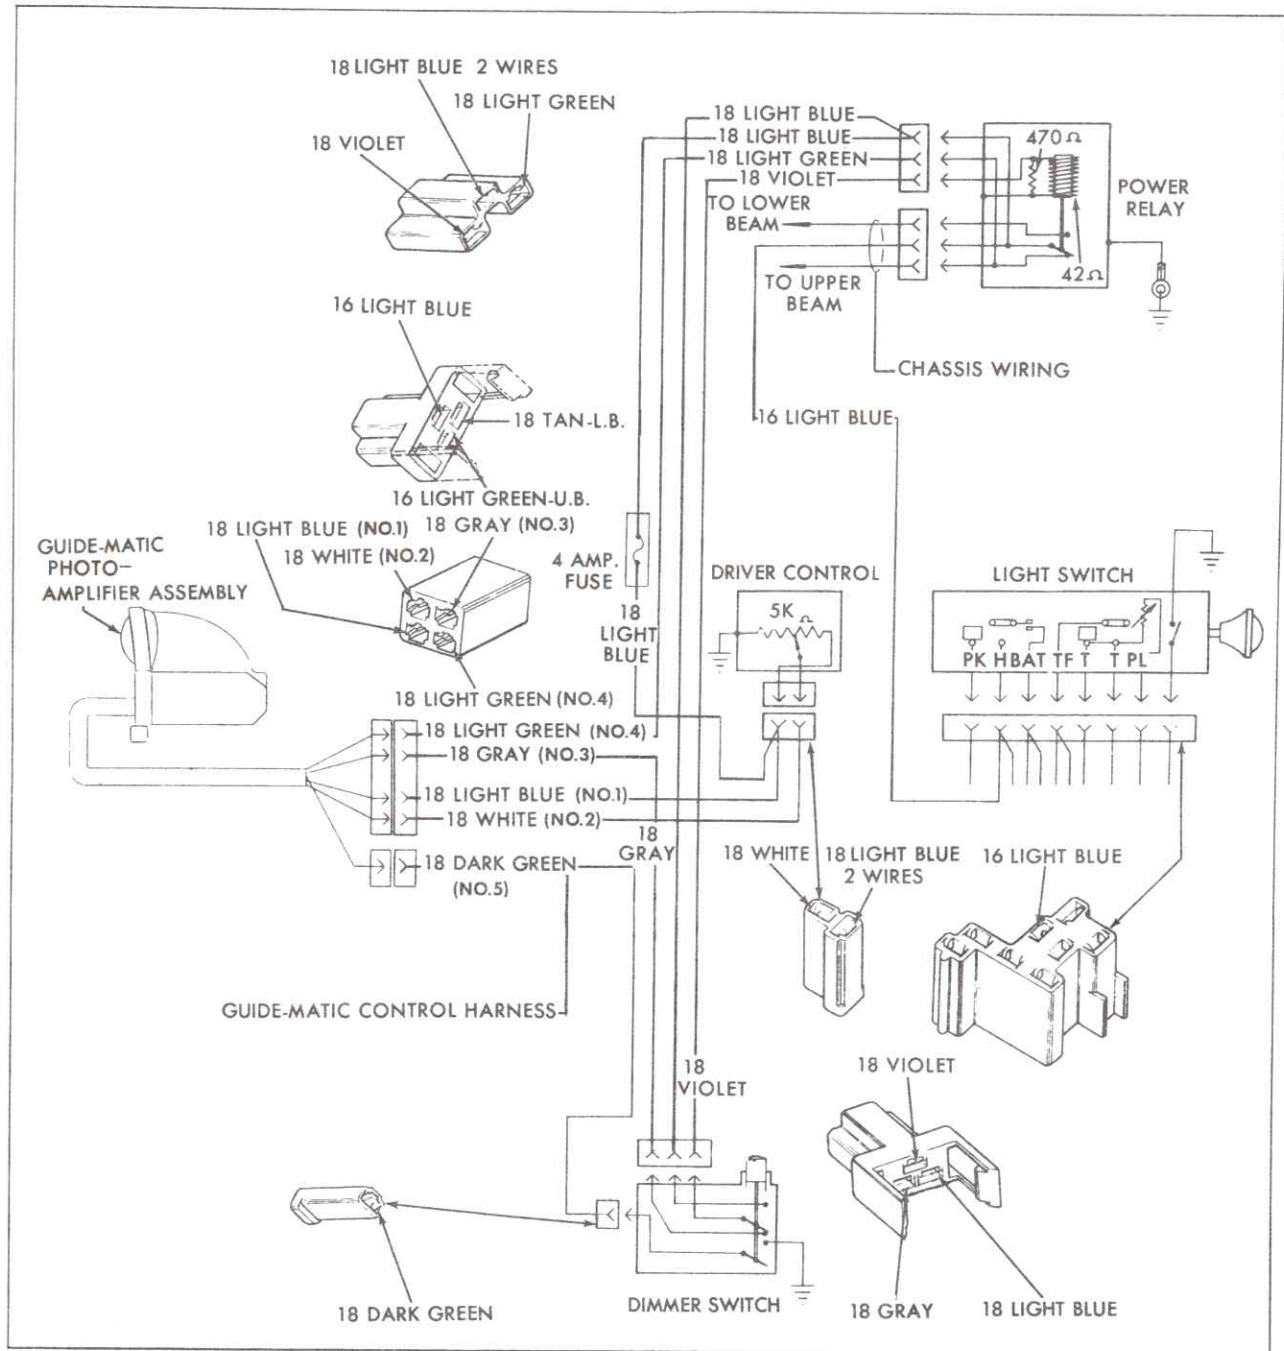
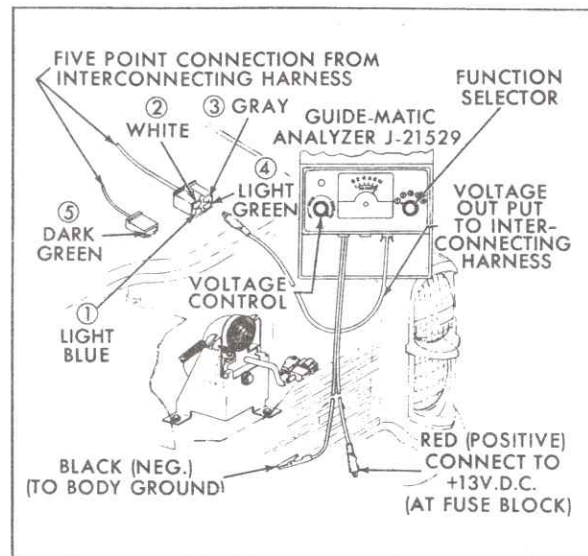

Fig. 15-31 Guide-Matic Circuit Diagram
Fig. 15-32 Circuit Check-Out from Connector
The electrical circuit for Guide-Matic is shown in Fig. 15-31.
- a. Check for loose connection at 4-way connector near photo-amplifier, Fig. 15-31.
- b. Disconnect photo-amplifier from nearby single connector (18 dark green terminal 5 shown in Fig. 15-31). If lower beam is obtained in both positions of foot switch, see Fig. 15-31 and check for shorted 18 dark green wire or shorted override section of foot switch. To check foot switch, reconnect single connector near photo-amplifier. Now disconnect 18 dark green wire from foot switch. If lower beam is obtained in both positions of foot switch, replace foot switch.
- c. Disconnect photo-amplifier from nearby 4-way multiple connector in interconnecting cable. Connect Guide-Matic Analyzer, J-21529, as shown in Fig. 15-32. (Do not connect red positive +13 volt DC in lead to battery.) Touch voltage output lead to terminal 1 in multiple connector (18 light blue). Analyzer voltmeter should read full scale. If not, see Fig. 15-31 and check for blown 4-amp fuse (near driver control connector), loose connection at driver control connector or power relay.
- d. Leave analyzer connected as shown in Fig. 15-32. Connect voltage output lead to terminal 2 (18 white) in multiple connector. Rotating driver control ring should vary meter voltage reading from 0 volts to full scale. If not, see Fig. 15-31 and check for loose connection at driver control 2-way connector, poor ground at driver control or defective driver control.
- e. Leave analyzer connected as shown in Fig. 15-32. Now touch voltage output lead to terminal 4 (18 light green) in multiple connector. Analyzer voltmeter should read full scale. If not, see Fig. 15-31, and check for loose connection at power relay.
- f. Connect analyzer + and - 13 volt DC in leads to car battery. Connect voltage output lead to terminal 3 (18 gray). With function selector switch in position #1, rotate voltage control knob fully clockwise. Headlights should be on lower beam in both positions of foot switch. If not, see Fig. 15-31, and check for loose connections at foot switch or power relay and poor power relay ground.
b. Disconnect dark green wire from foot switch and ground to car body. If upper beam is obtained, replace defective foot switch. If not, check continuity of dark green wire to single connector near photo-amplifier unit, Fig. 15-31.
7. With headlights on lower beam, rotate driver control ring pointer counterclockwise to "off" position. Headlights should switch to upper beam. If so, proceed to step 8. If not, see Fig. 15-31, and check driver control for defective connection to ground.
b), replace defective photo-amplifier. If dim and hold sensitivity readings are close together on the analyzer voltmeter (approximately 1/3 to 3/4 volt) see Fig. 15-31 and check for open 18 light green wire between power relay and 4-way connector near photo-amplifier. Follow procedure outlined under 4e of Preliminary Checks. If all right, replace photo-amplifier.